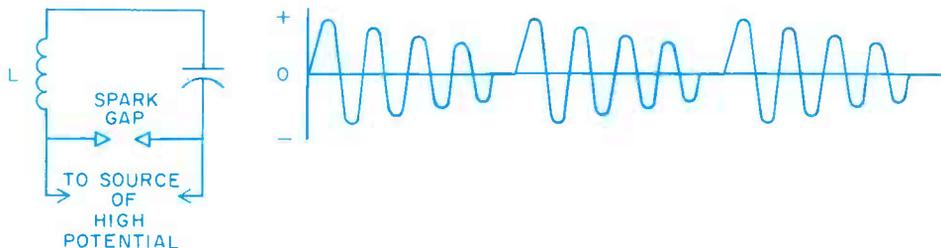
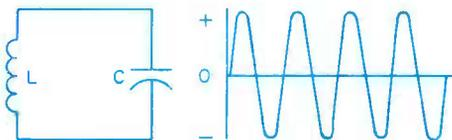

Figure 1.
Figure 2.
What was needed was a carrier whose frequency and amplitude normally remained constant unless purposely varied. At the time most transmitters were of the spark gap type shown in Fig. 1.
across L, added to that stored in C, is enough to break down the air in the spark gap. The result is a visual spark and a loud snap. However, the circuit between L and C has been completed and energy is transferred back and forth between the coil and capacitor. A damped wave is formed, as shown, whose amplitude gradually decreases until the spark disappears and then the process is repeated. The frequency roughly is determined by the capacity of C and the inductance of L. A damped wave train (a series of damped waves) of this sort is of no value as a carrier of voice or music. We described it to bring out the important point, that once a resonant circuit starts to oscillate it will continue to do so until all the stored energy is used up in the form of heat. Suppose in the damped wave in Fig. 1 we gave a little extra shove (a burst of energy) right at the top of the first positive cycle and each succeeding half cycle. The circuit would then continue to oscillate. There would be no damping or change in frequency and we would have the desired type of carrier, producing a signal as shown in Fig. 2.
FIG. 2. The color i-f response (B) is shaped to compensate for the unequal response above and below 42.17mc in the video i-f response (A) to produce a flat-topped overall color sideband signal response (C).
Fig. 2 shows how the response of the color i-f amplifier (bandpass amplifier) is shaped to get equal amplification for the upper and lower color sidebands. In Fig. 2A the video i-f response is drawn with the frequency decreasing left-to-right. This is necessary to allow for the reversal of color sideband frequencies in the heterodyning process of the video detector. That is, sidebands below 3.58mc are above 42.17mc when they are in the video i-f amplifier. These lower sidebands receive greater amplification in the video i-f amplifier than the upper sidebands that lie between 42.17mc.